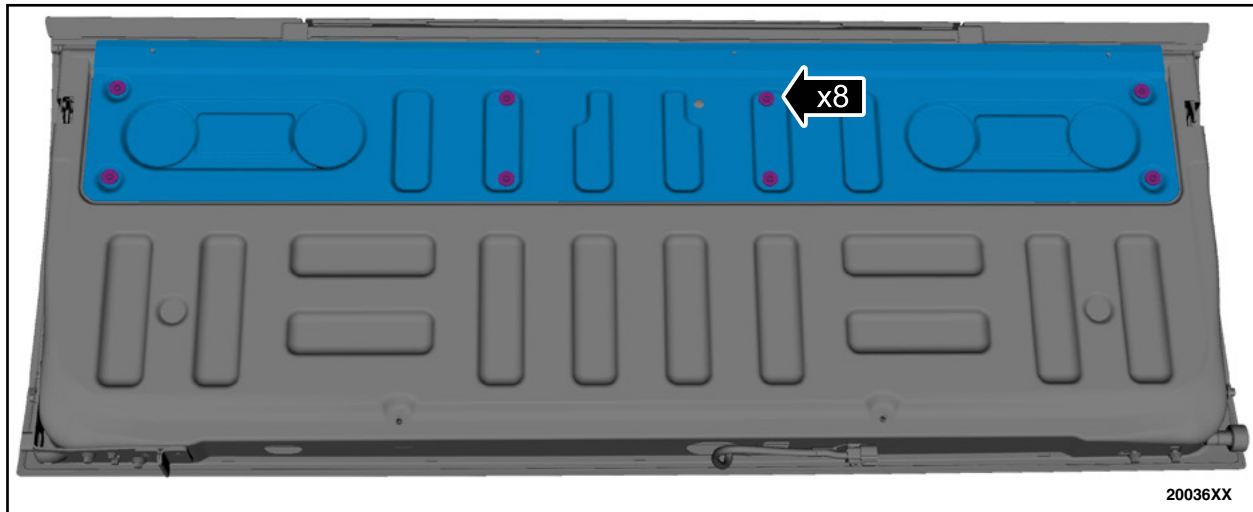

FIGURE 52
72. Remove the tailgate access panel bolts and the tailgate access panel. See Figure 52.